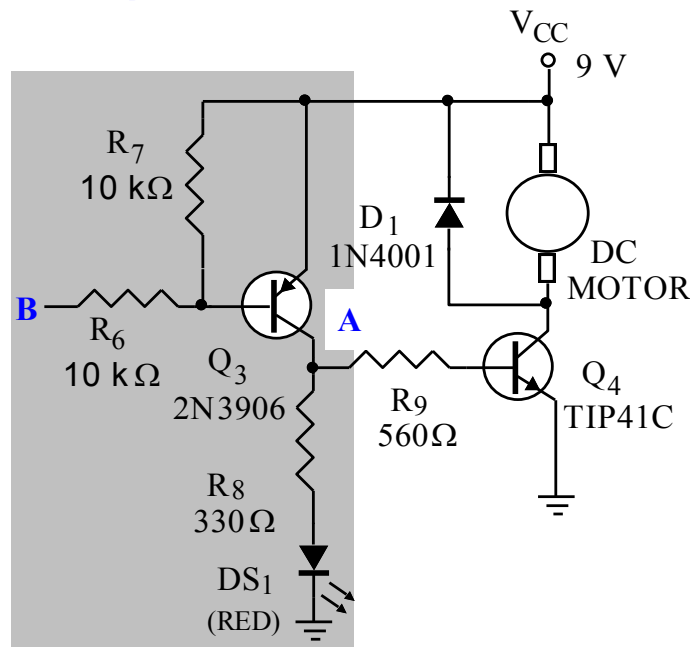

Figure 5-38.
The balance of the motor drive circuit is provided in Fig. 5-38. Transistor Q_3 is a *pn*p device. Recall that the operation of a *pn*p BJT is identical to that of an *np*n BJT. However, the voltages and currents are *reversed*. When point B is taken to ground (LO), transistor Q_3 will turn on. Its emitter will be 0.7 V more positive than its base terminal. Base current will flow out of the base terminal and through resistor R_6 to ground. Q_3 's collector current will flow out of its collector and down through resistor R_8 and the LED.